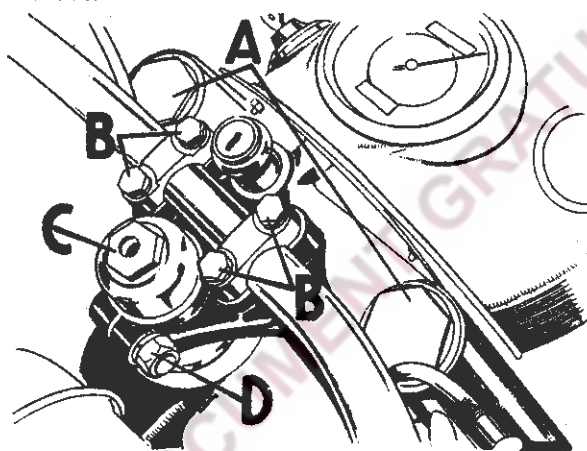

FIG. E.4.
Slacken the pinch bolt (D), remove the caps (A) and (C), and unscrew and remove the adjusting sleeve which is underneath cap (C) Fig. E.4.